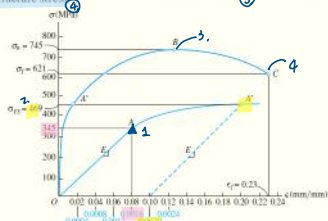

Fig. 3-18
A tension test for a steel alloy results in the stress-strain diagram shown in Fig. 3-18. Calculate the modulus of elasticity and the yield strength based on a 0.2% offset. Identify on the graph the ultimate stress and the fracture stress.
- ③ **Ultimate Stress.** This is defined by the peak of the  $\sigma$ - $\epsilon$  graph, point  $B$  in Fig. 3-18.